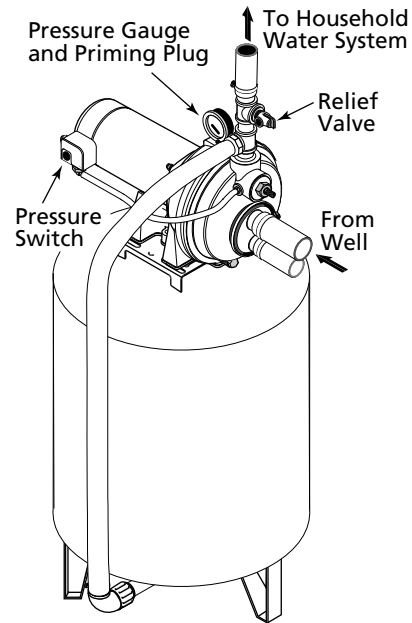

Figure 10 – Pre-charged Tank Connections
PRE-CHARGE TANK CONNECTION (FIGURE 10)
1. Install a close nipple and a tee in the pump discharge port (See Figure 10). The pipe size must be at least as large as the discharge port. Run a pipe or reinforced hose from one arm of the tee to the port on the pre-charged tank.